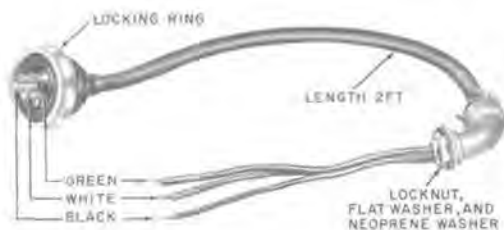

Fig. 2—KS-19580, List 30 Power Cord Assembly
- KS-19580, List 30 power cord assembly (Fig. 2)—Used to bring power into the top of an outdoor booth.